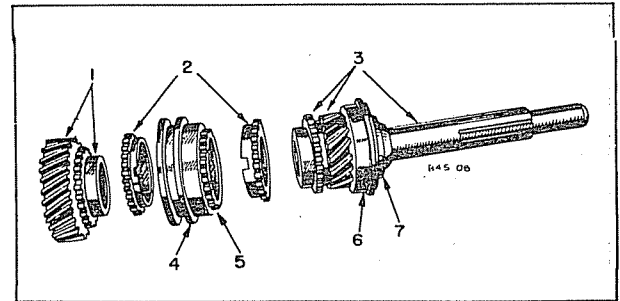

Fig. 5—Transmission Synchroniser and Second Speed Gear Assembly (Refer to Fig. 1).
- (6) The synchroniser unit should be assembled exactly as shown in Figure 5. The slots of the stop rings (2), Figure 5, should engage the plates in the clutch rear sleeve.